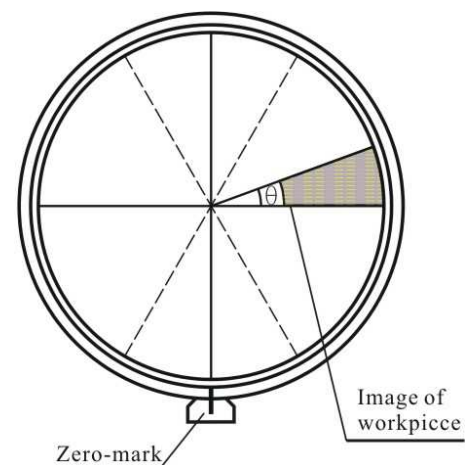

Fig.11 Angle measurement
7.2.3.2 Adjust the tip of the angle into the graduated center of the screen (See Fig. 11).